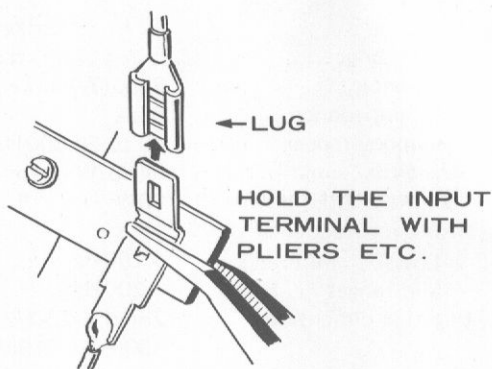

Fig. 1
- 3 Pull lugs off speaker terminals. Be careful not to lose the terminals. (Fig. 1)